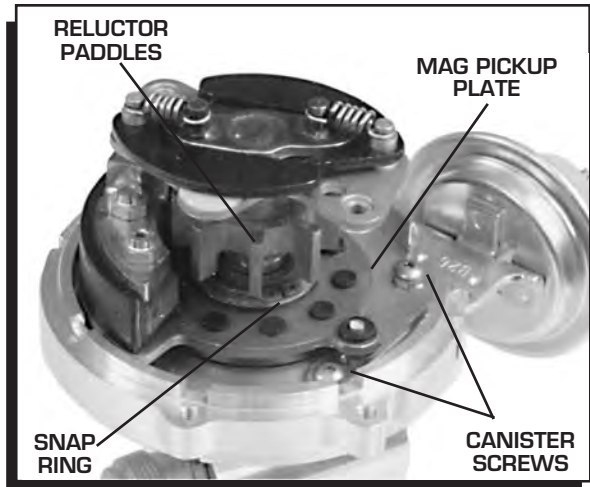

Figure 8 Removing the Vacuum Canister.
1. Remove the two Allen head screws that hold the advance canister (Figure 8).